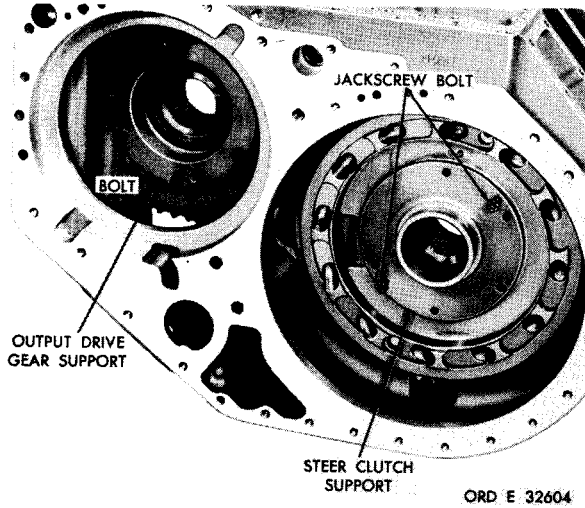

Figure 185. Transmission rear housing — left-side view
ak. Using a 9/16-inch wrench, remove five self-locking bolts that retain the left-steer clutch support. Use two of these bolts as jacks crews to loosen the support (fig. 185). Remove the support (fig. 185).
al. Using a 9/16-inch wrench, remove five self-locking bolts that retain, the output drive gear bearing support (fig. 185). Use two of the bolts as jackscrews to loosen the support. Remove the support.
bolts (fig. 185). Torque the bolts to 36-43 pound-feet.
o. Install the left-steer clutch support and secure with five 3/8-16 self-locking bolts (fig. 185). Torque bolts to 36-43 pound-feet.